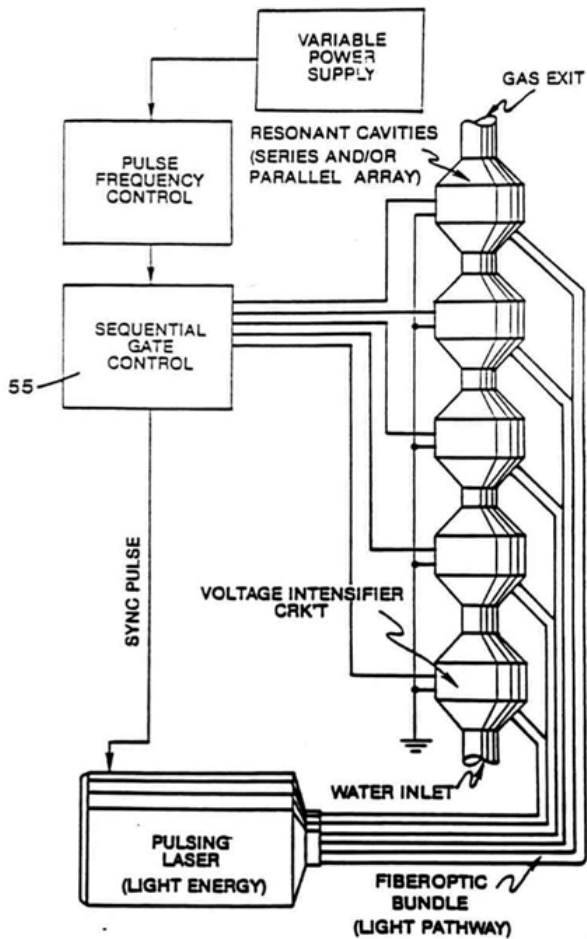

FIG. 20D: POWER LOAD DISTRIBUTION
Laser or **light energy** (45) of Figure 20C and Figure 20D is now injected into said high intensity voltage zones to help cause said liberated gas atoms (remember ambient air gases are also being released from said water) to reach said gas ionization state.
Said ionized gases enter into other resonant cavities (see *Figure 20D as to Figure 20C again*) in stacked relationship (*exit port to inlet port*) undergoing the same gas ionization process.